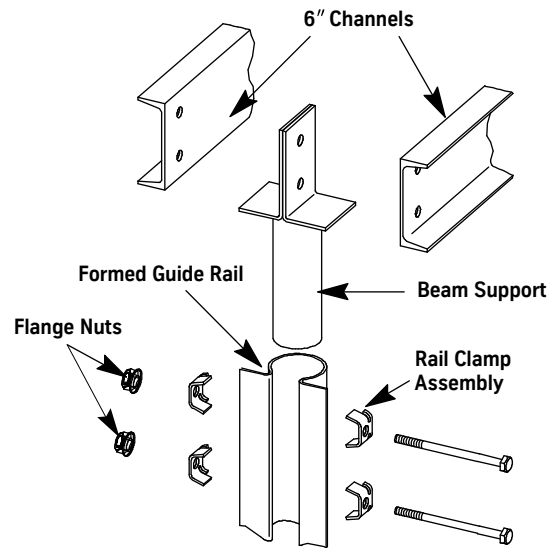

Figure 24 - Support Beam Mounting
9. Install the support beam mounting assembly for hoisting and setting the jack. See Figure 24.